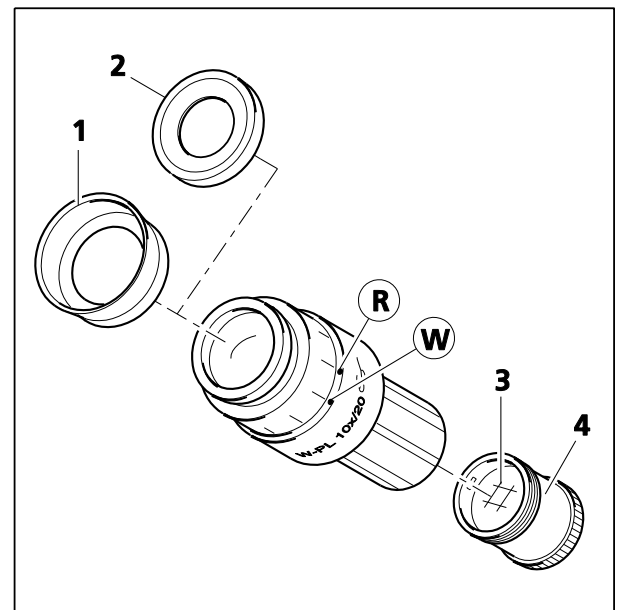

Fig. 10 Inserting the eyepiece reticle
The eyepieces have a rubber ring each to protect the lenses of spectacles against scratches. The protection rings can be replaced with fold-over eyecups (Fig. 10/1) when required.
- Remove the protection rings (Fig. 10/2) from the eyepieces and attach the eyecups (Fig. 10/1).
The slight image shift caused by the additional path through glass is taken into account on the diopter scale by the fact that the zero point position is indicated not by the white dot (Fig. 10/W), but the red dot (Fig. 10/R).
In the eyepiece W-PL 10x/23 Br. foc. (455043-0000-000) and E-PL 10x/20 Br. Foc. (444132-9902-000) the eyepiece reticles (Fig. 10/3) have been adhered to screw-in mounts (Fig. 10/4) by the manufacturer for easy replacement. Complete mounts with reticles adhered can be ordered directly from Zeiss.
- Unscrew the existing mount (Fig. 10/4) with eyepiece reticle (Fig. 10/3) from the eyepiece, without exerting heavy radial pressure on the diaphragm unit in order to avoid deformation and jamming. Replace it with a new mount containing the eyepiece reticle required.